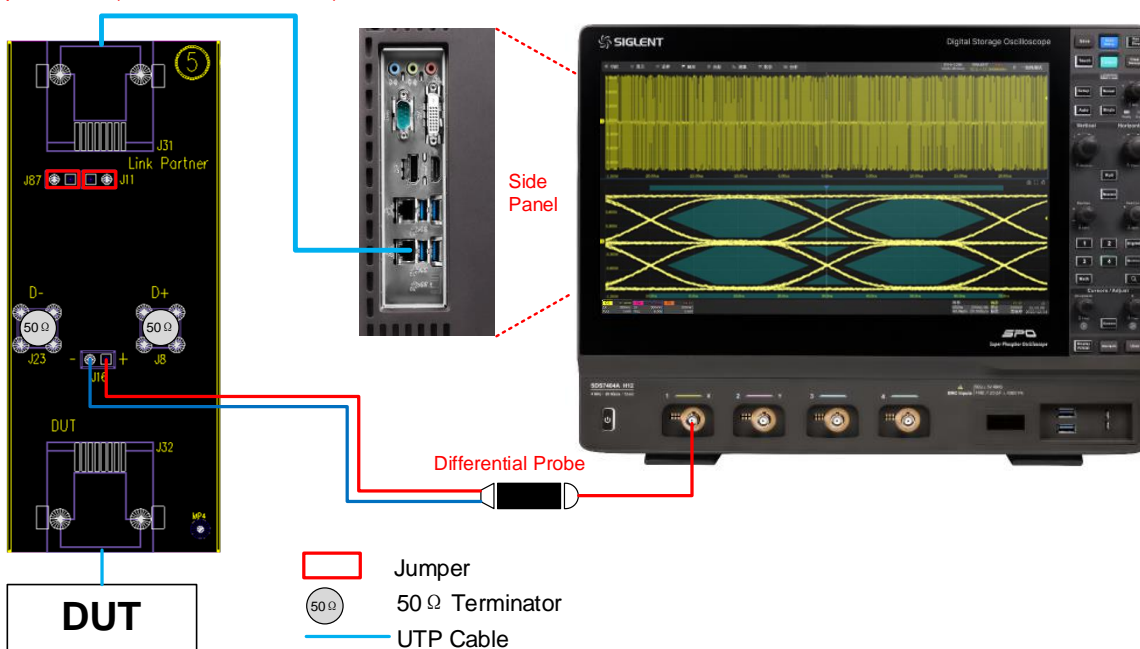

Figure 4-6 Connection Diagram in the Connect Menu
- **Connect:** This column displays the connection diagram of the compliance test, as shown in Figure 4-6. If more than one item is selected simultaneously, only the connection diagram for the first test item will be displayed. For the other test items, if the connection is different then a new pop-up window will appear at the end of the previous test.